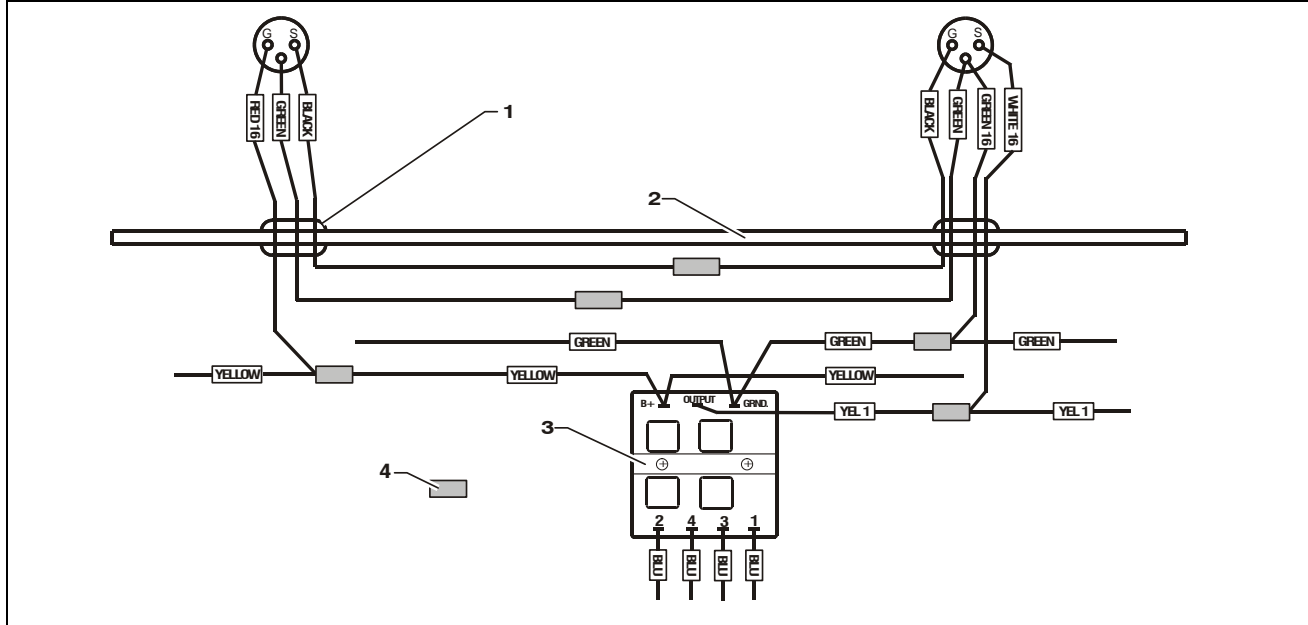

Figure 5-3. Straddle Adapter Wiring Harness to AM Wiring Connections.
- 5.** Install the spring clips to the base frame at location of drilled holes, using two (2) #10-24 x .625 bolts and two (2) nuts and two (2) lock washers per spring clip.
- 8.** Wire the adapter wiring harness ends together and to the interlock relay wires **as shown in Figure 5-3.**
- 9.** Press the two (2) - three (3) prong connector ends into the spring clips mounted on the base frame.